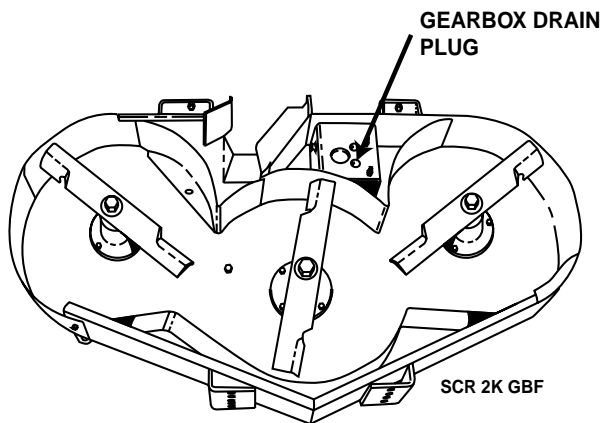

Figure 7-10 Gearbox Drain Plug
3. Beneath the cutter deck is an access hole to gearbox drain plug. See Figure 7-10. Clean the area thoroughly and then place a suitable container under the drain plug.